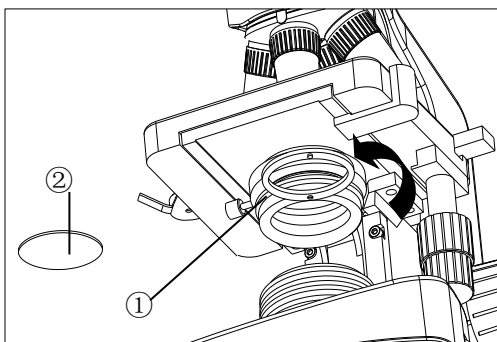

Fig.7
2.2.4 Install the color filter (Fig.7)
1. Rotate the condenser holder① out as Fig.7 shows.
2. Put the filter② into the condenser holder, and then switch back the holder.
2.2.6 Replacing the fuse (Fig.7, 9, 10)